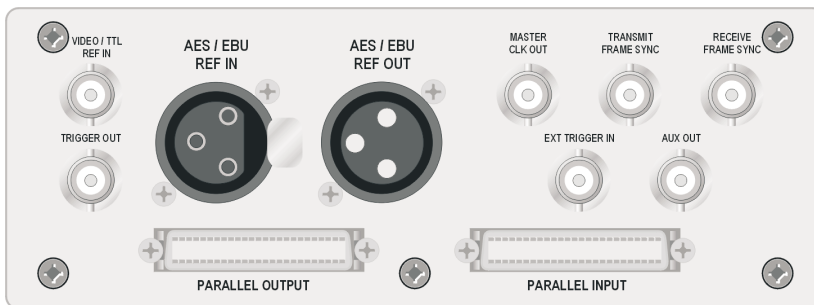

Figure 2-35. Miscellaneous digital I/O
(SYS-2522 & SYS-2500 only. See Figure 2-35)
2.9.1.6 Miscellaneous Digital I/O (SYS-2522 & SYS-2500 only. See Figure 2-35)